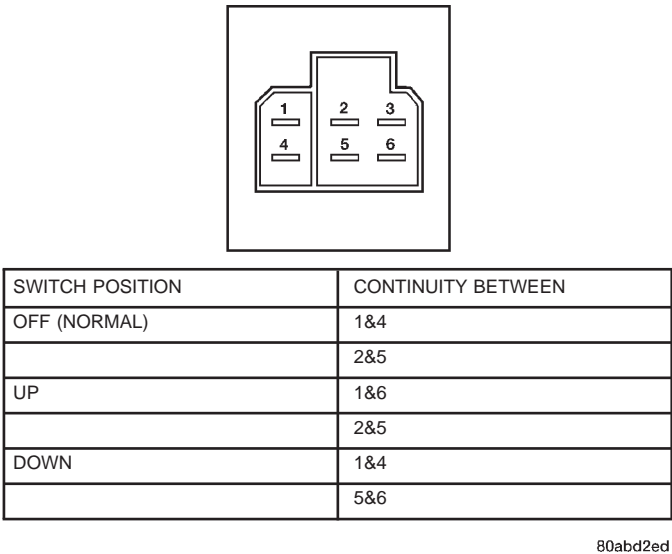

Fig. 3 Rear Door Power Window Switch Continuity
- (1) Disconnect and isolate the battery negative cable.
- (2) Remove the power window switch from the rear door trim panel.
- (3) Check the power window switch continuity in each position as shown in the Rear Door Power Window Switch Continuity chart (Fig. 3). If OK, see the Power Window Motor diagnosis in this group. If not OK, replace the faulty switch.